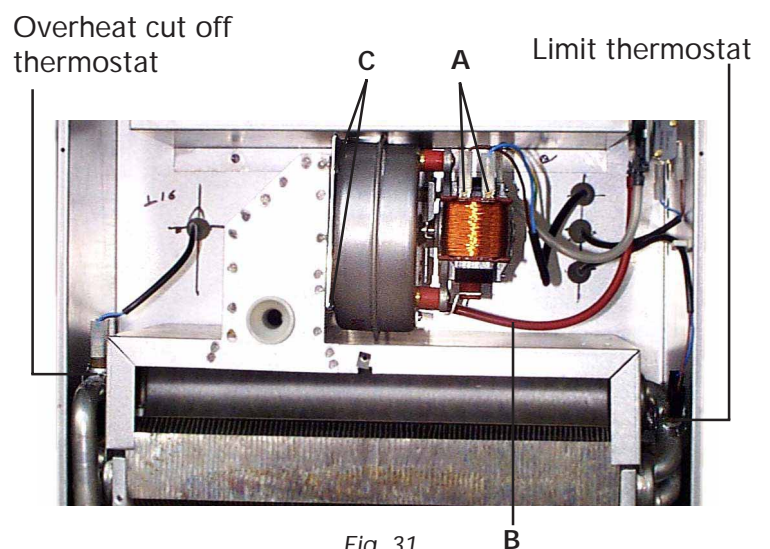

Fig. 31
7.10 Removal of fan (fig. 31)
7.11 Limit thermostat, or overhear cut off thermostat (fig. 31)
- Identify the location of thermostat from fig. 31